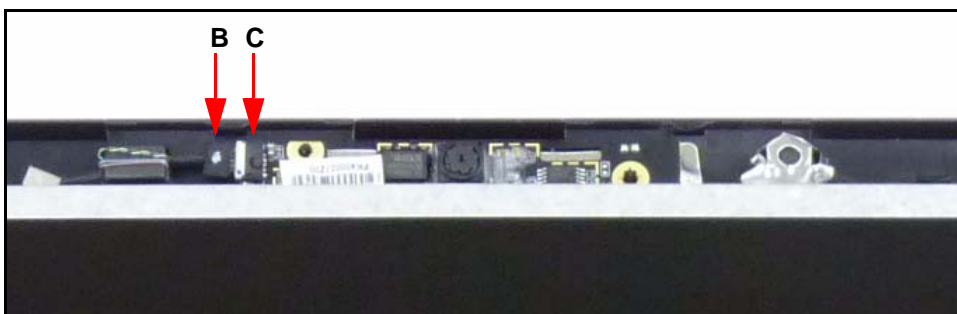

Figure 3-45. Camera Cable
2. Disconnect the camera cable (B) from the camera module connector (C). (Figure 3-45)
2. Connect the camera cable (B) to the camera module connector (C). (Figure 3-45)